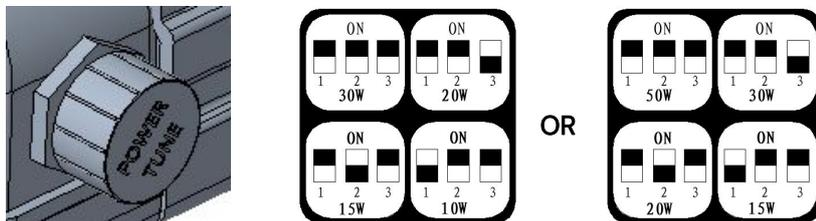

Fig. 2
2. If the luminaire is designed to be wattage tunable. Please unscrew the knob cap before using the watt selectable function. According to the watt selectable label shown in Fig. 2, please toggle the DIP switch 1, 2, 3 to select the corresponding watt. Screw the knob cap after using the watt selectable function.